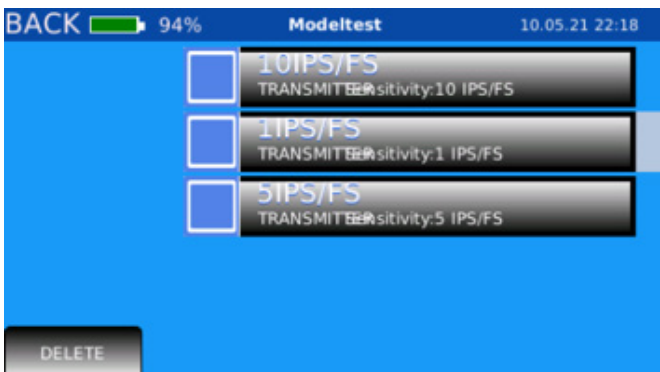

Figure 39. Select model
- 5. Select the transmitter model and sensitivity (Figure 39).